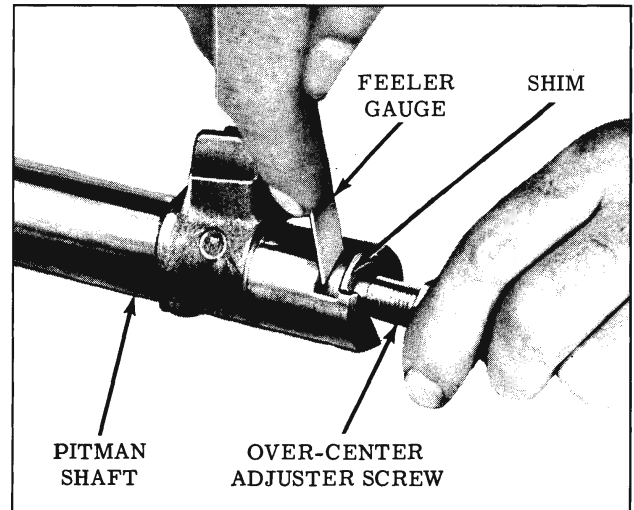

Fig. 4-223 Pitman Shaft Adjuster Clearance
3. Assemble the over-center adjuster with shim in the slot in the end of the pitman shaft. Check the end clearance which should not be greater than .002" (Fig. 4-223). For the purpose of adjusting this end clearance, a steering gear over-center adjuster shim unit, Part Number 605142, is available. It contains four shims--.063", .065", .067" and .069" thick.